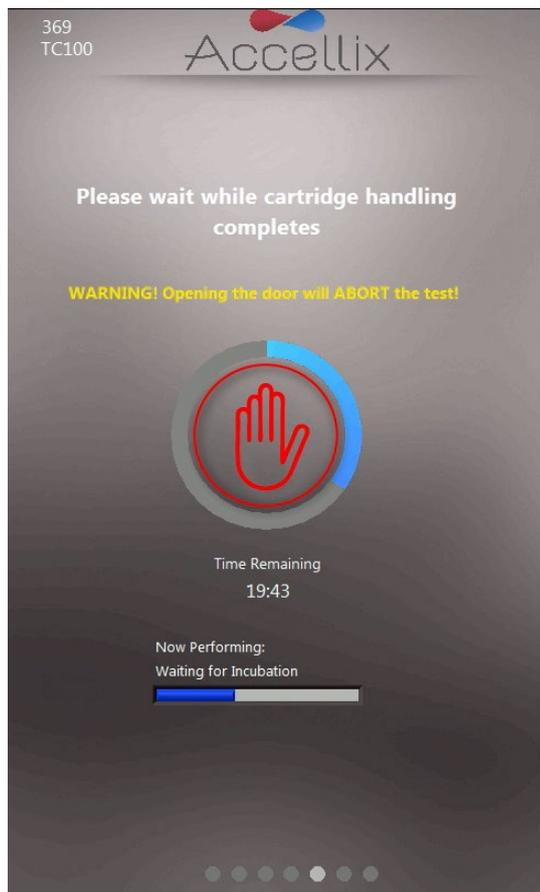
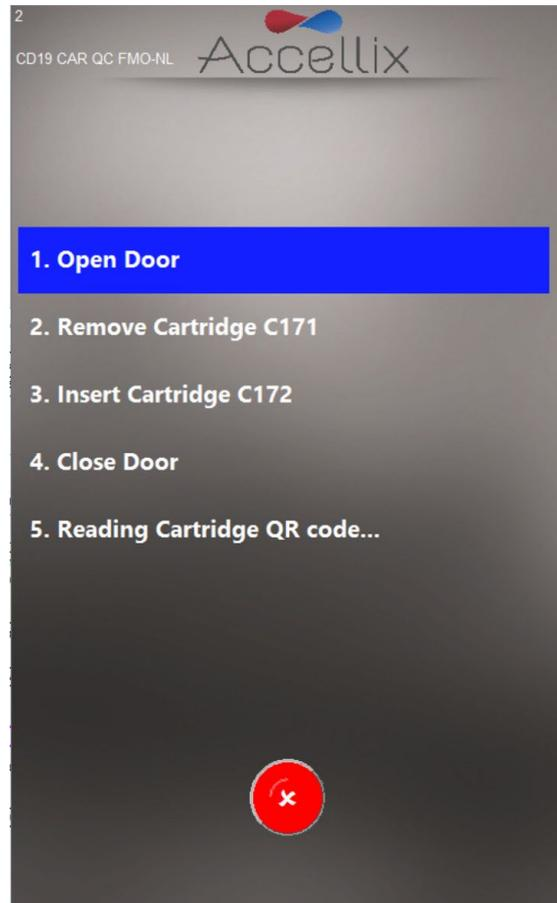

Figure 31: 'Progress Indicator and Time Remaining' screen
Figure 37: Multi-cartridge Remove Cartridge screen
12. **Progress screen** (Figure 31) displays a progress indicator and **Time Remaining** countdown timer. The operator can monitor the test progress and approximate time remaining.
Note: If an operator wishes to stop an assay while underway, this should be done by tapping **Stop**, i.e., the red hand at the center of the progress indicator (see Figure 31). Refer to *Termination of an Assay Run* section below.
- a. The **Multi-cartridge Remove Cartridge** screen instructs the operator to remove the first cartridge and insert the next cartridge in the sequence (Figure 37).
The **Stop** or **Abort** icons may be used to terminate an assay run (Figure 31 and Figure 37).